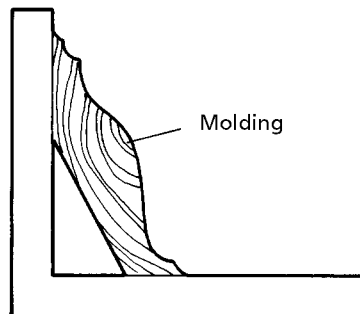

Fig. 12
- ↑ To cut cove molding, set the molding in the miter box upside down, as shown, so it can be seated firmly against the bottom and back. The wall side is the long side for inside corners; the short side for outside corners (Fig.12).